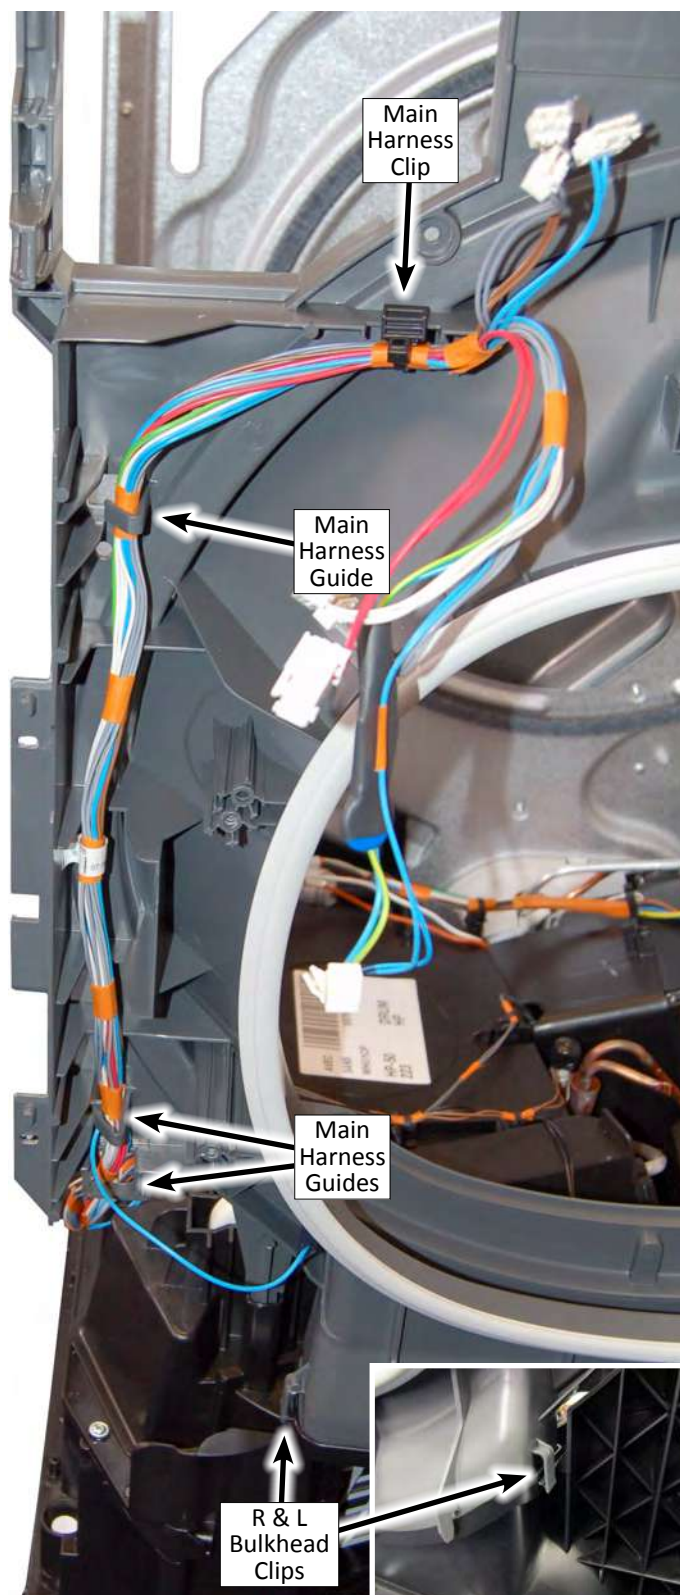

Figure 2
9. Remove the main harness run from the front of the bulkhead. The harness is secured to the bulkhead by one clip and 2 or 3 guides. See Figure 2 in the next column.
11. Locate the right and left-side clips securing the front bulkhead to the base assembly (see inset in Figure 2.) Lift up and remove the front bulkhead assembly from the base.